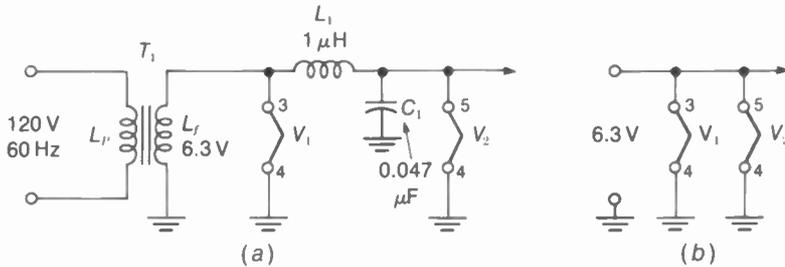

FIGURE 12-22 PARALLEL CONNECTIONS FOR 6.3-V HEATERS. (a) WITH RF DECOUPLING FILTER  $L_1C_1$ . (b) EQUIVALENT CIRCUIT FOR 60 Hz.
For receivers that use tubes, the heaters can be connected either in series or in parallel. With a transformer to step down the ac line voltage from 120 to 6.3 V, the heaters are in parallel across the filament winding (Fig. 12-22). Then all
**Parallel heaters.** In Fig. 12-22, one end of the filament winding  $L_f$  is tied to chassis ground to